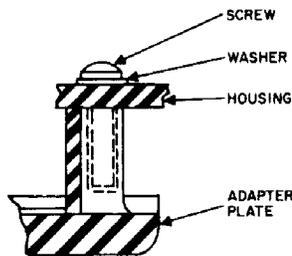

Figure 12. Installation of the Old-Style TCU Adapter Plate to the Housing.
- (c) Place the adapter plate into position over the TCU. Secure it as shown in Figure 12, using the panhead screws included in the housing kit. Install washers under the heads of the screws.
4.10 To install the Type 12C TCU (item 9), proceed as follows: